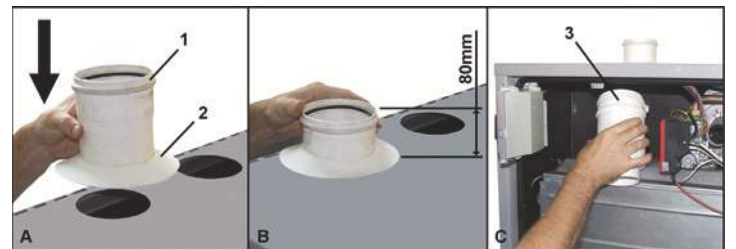

fig. 33
- Respect the distance given in the box "B" of fig. 33. This distance must be increased by 5 mm with each additional module.